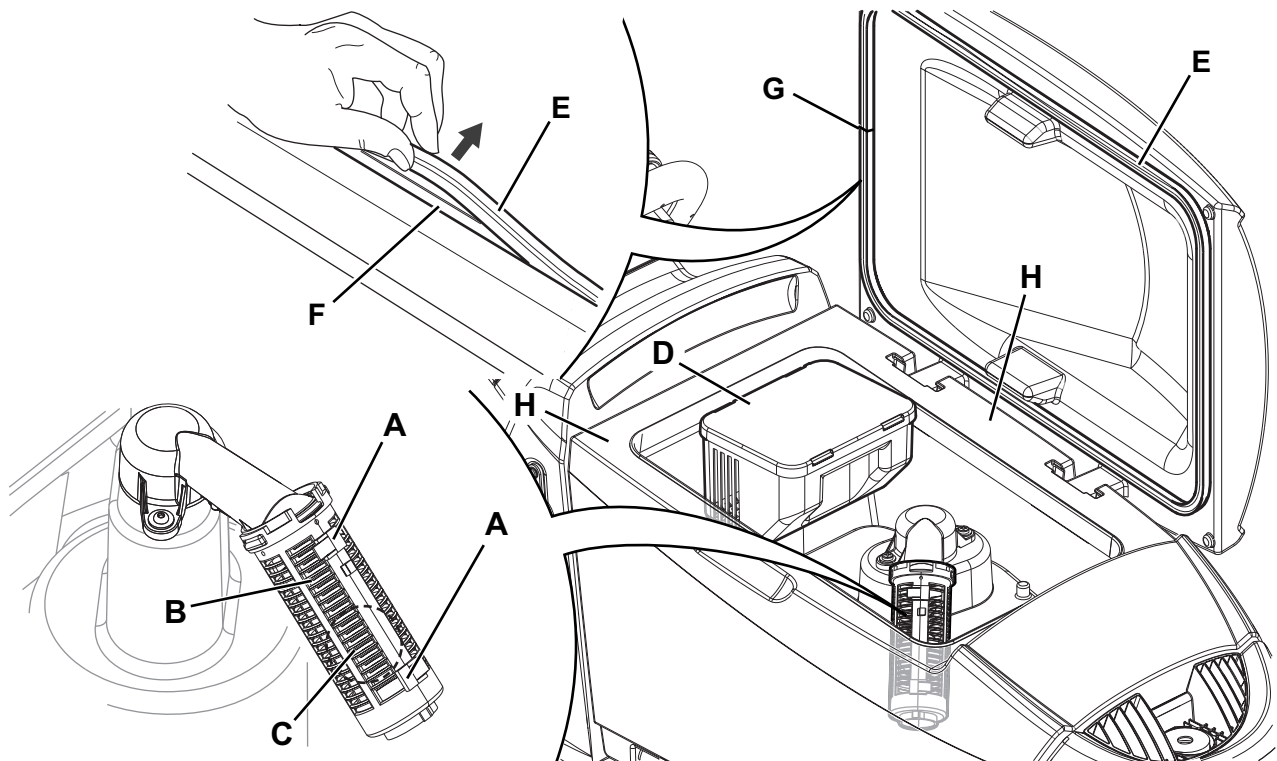

Figure 12
2. Ensure that the machine is off and the user key (52) has been removed.
3. Raise the cover (34).
4. Drain the water from the tank with the drain hose (12).
5. Clean the vacuum grid (31), release the fasteners (A, Fig. 12), open the grid (B) and recover the float (C) then clean it carefully and reinstall it.
6. Remove the debris collection tank (D) and open its cover, then clean it carefully and reinstall it on the vacuum hose.
7. Check the condition of the tank cover gasket (E).